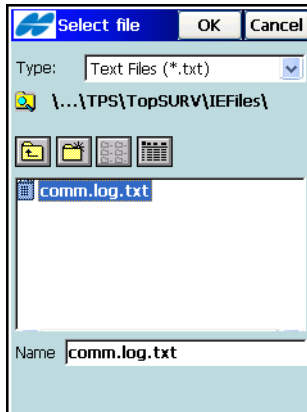

Figure 4-11. Select File to Export
- **Next** – opens the *Select File* screen (Figure 4-11 on page 4-11).
On the *Select File* screen, you can navigate to the file to export (Figure 4-11).